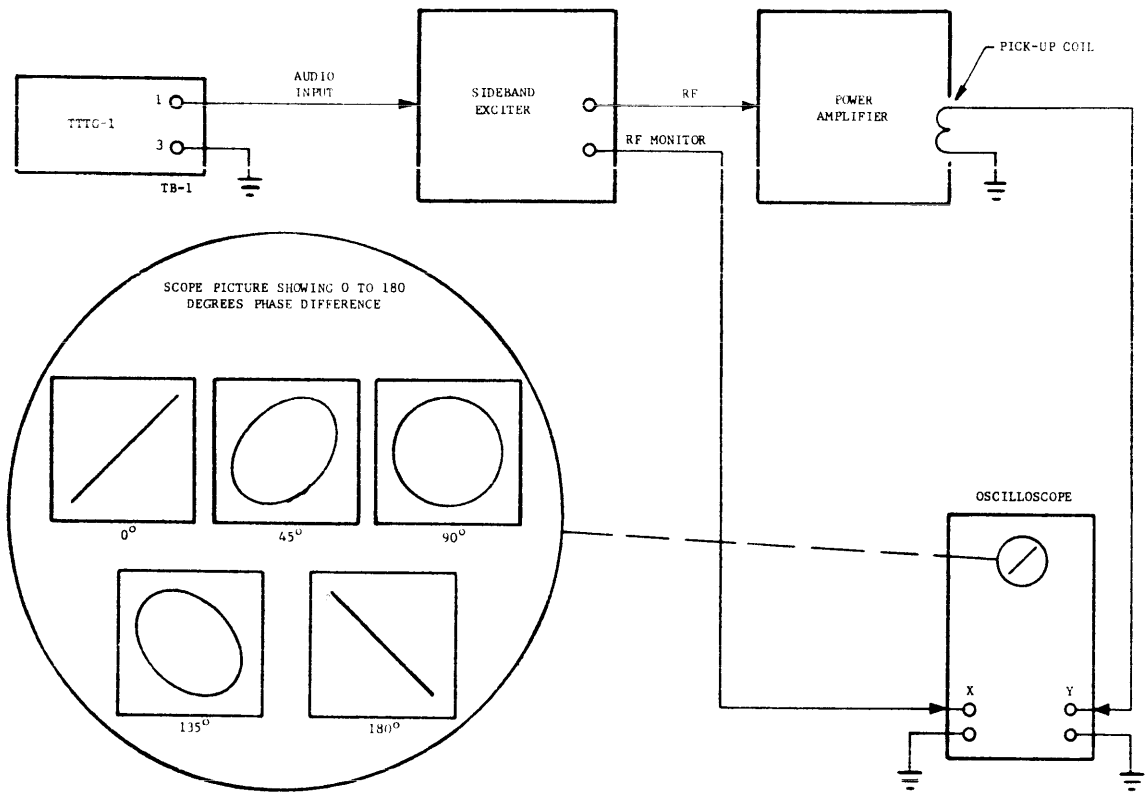

FIGURE 3-3. LINEARITY TEST
jacks of oscilloscope respectively, as indicated in figure 3-3.
d. Scope picture should be a straight line as indicated in figure 3-3.